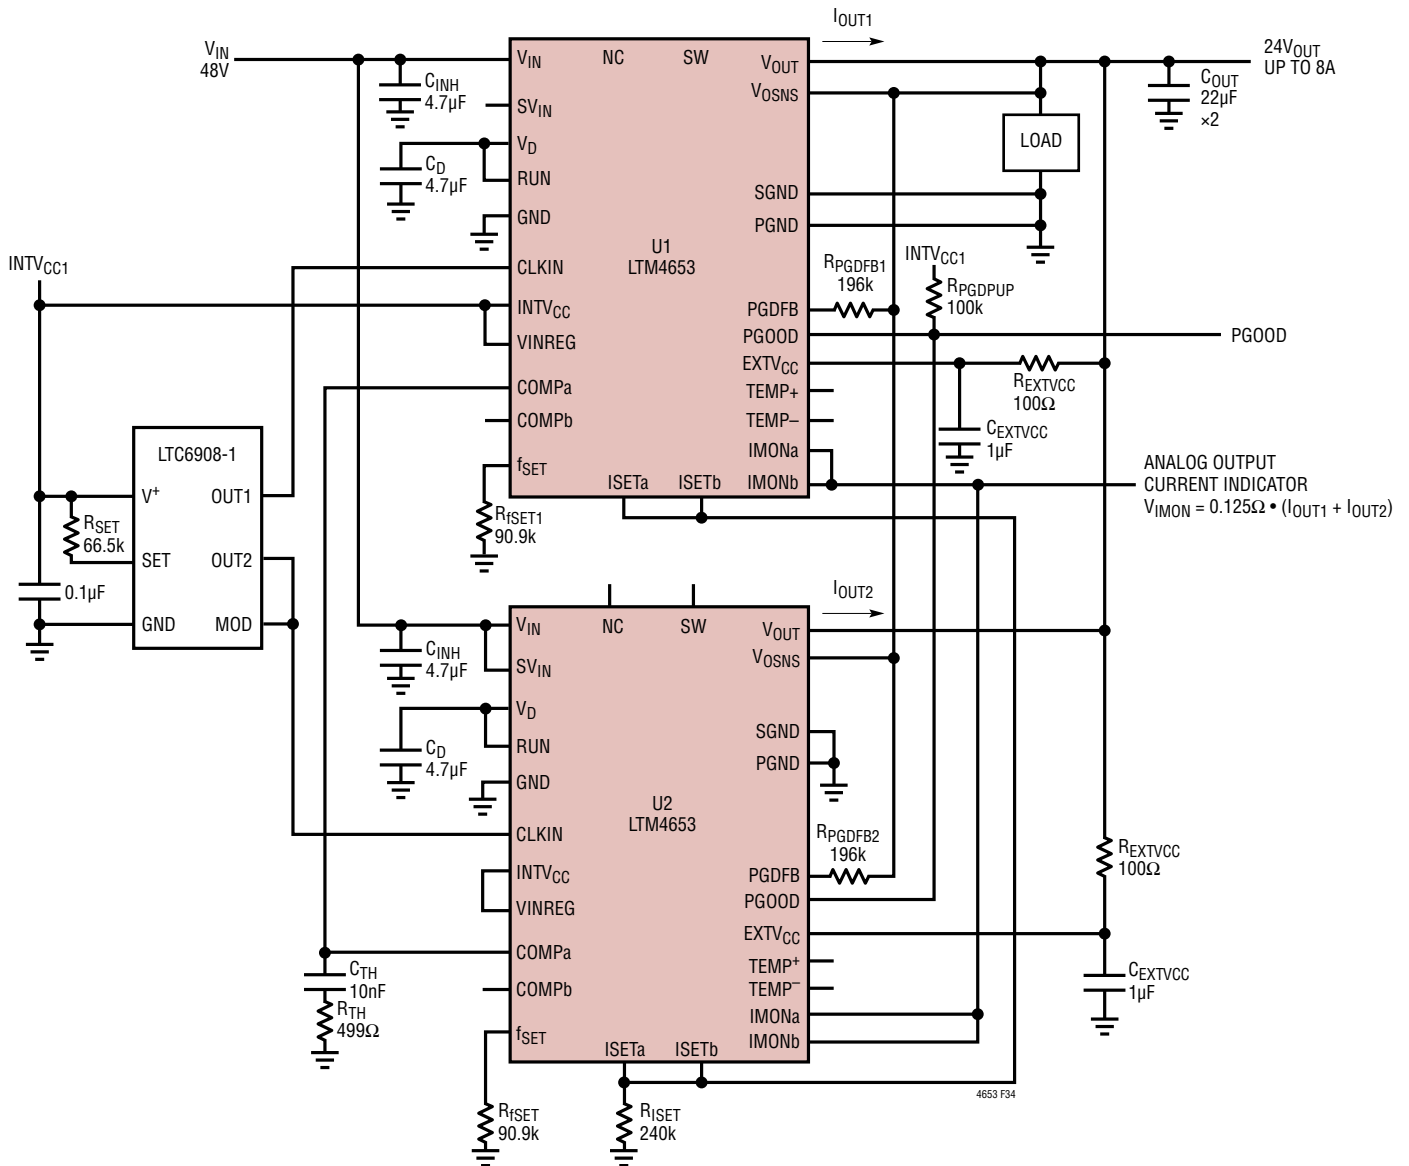

Figure 34. 24V Output at Up to 8A from 48V Input, 2-Phase Parallel with Analog Output Current Indicator
- For parallel module applications, connect the V_{OUT} , V_{OSNS} , RUN, ISETa, COMPa and PGOOD pins together as shown in Figure 34.